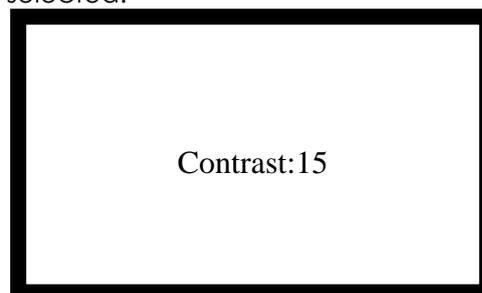

Fig. 4-25
- Selecting "1.Contrast" enters the screen of Fig.4-25. Pressing **【▲】** and **【▼】** modifies the contrast of the LCD. Press **【Menu/ENT】** to save the modification and exit. Press **【ESC】** to cancel the operation.